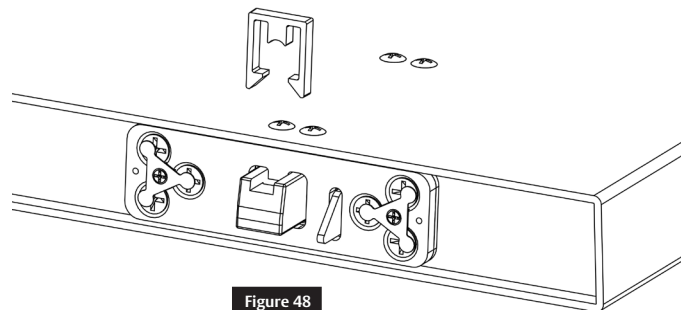

Figure 48
- Remove the bolt retainer clips from the top and bottom latch assemblies. (Figure 48)